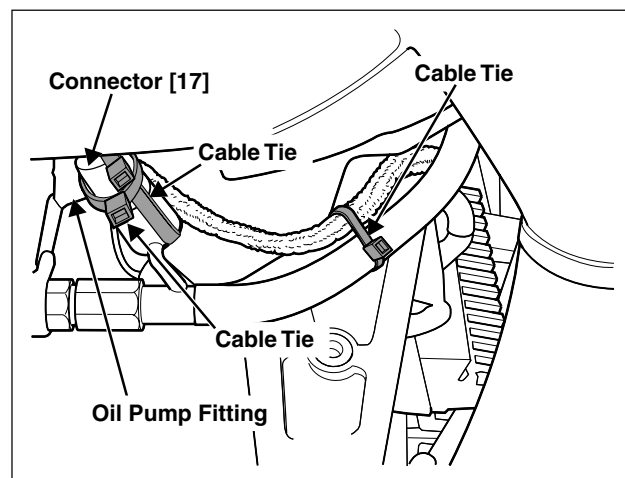

Figure 7-49. Cable Tie Locations
2. See Figure 7-49. Locate voltage regulator connector [17] near the oil pump. Cut cable straps and disconnect connector [17].
2. See Figure 7-49. Connect voltage regulator connector [17] halves and cable tie halves together. Bundle excess wiring in front of oil pump. Secure bundle to oil pump fitting and hose using **new** cable straps.